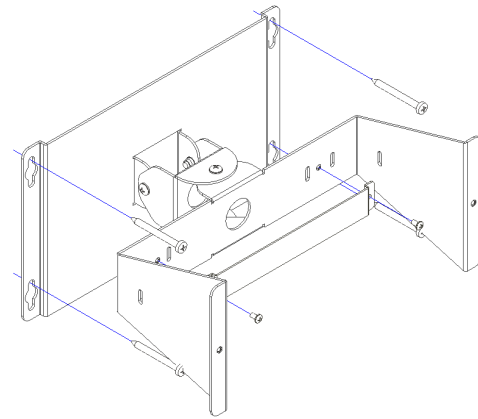

Figure 1
**Step 1** – Pre-drill and partially thread #10 x 2" screws or wall anchors, not included, in the desired mounting location. If not using a Cisco Access Point, Attach the T-bar bracket to the mounting bracket with 2 #6-32 x 1/4" screws. Fasten the wall screws to studs or joists if possible. Slide the mount over the screw heads through the keyhole slots and finish securing the mount (Figure 1). Tighten the screws of the articulation bracket in the desired position.